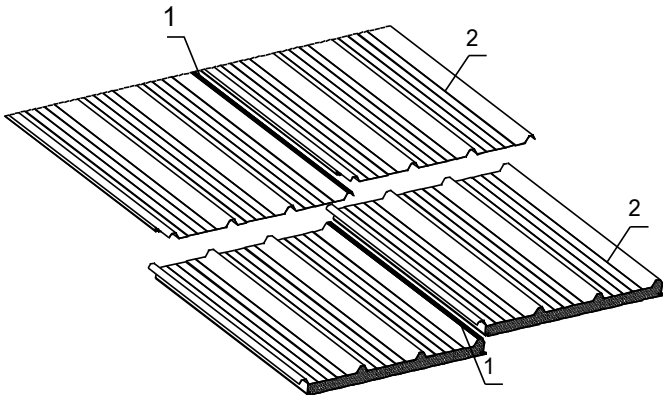

fig. 2
b. Longitudinal side joints of roof panels on roof slopes of $5\% \leq a \leq 8\%$ should be sealed with a self-adhesive tape or butyl sealant (Fig.2).